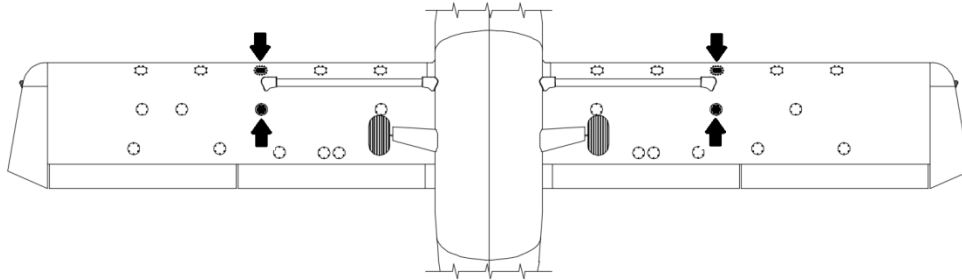

Figure 7 – Wing Access Panels
4. Remove wing access panels as shown in Figure 7 to access wing Strut Fittings.